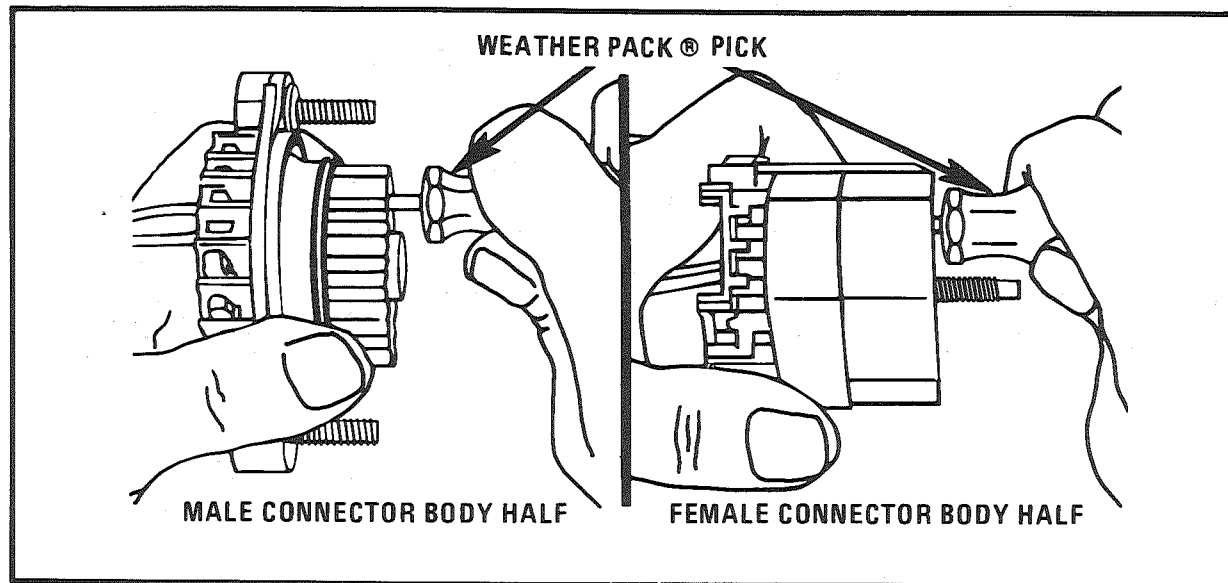
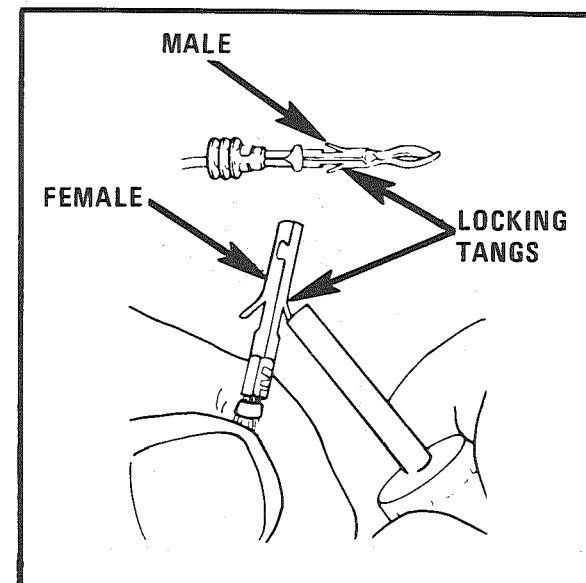

Figure 26 - Releasing The Terminal Locking Tangs (Large Connector)
Figure 28 - Re-Forming The Locking Tang
- Push the hollow cylinder of the pick into the terminal cavity from the front until it stops (see Figures 26 and 27). The pick should surround the terminal (see Figure 28 for drawings of locking tangs).
- Use the pick (J28742-A or the equivalent) to bend the locking tang back into its original shape (see Figure 28). Also, check to see that the remainder of the terminal is still in its original shape. (See Step Six for instruction in inserting the lead.)
Before inserting the lead, make certain that the terminal is correctly shaped (see Figure 28). Then, gently insert the lead from the back. The terminal should stop or "catch" about halfway through the connector body. Gently push back and forth on the lead to be sure the terminal is held in place in both directions. If the terminal easily pushes or pulls out, review Step Four: "Re-Form the Locking Tang."